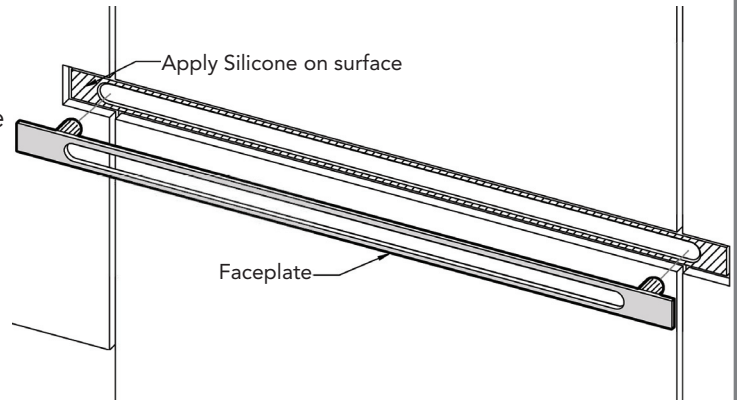

Figure 5
STEP 8. Once the steam head installation is tested for leaks, the pre-installation is complete. The wall surfacing materials (cement board, tiles, marble, etc.) can be installed. Leave a cut out in the wall surfacing materials around the front of the Steam Head face (or faceplate) as shown. Make the cut out as tight as possible. (Fig. 5)